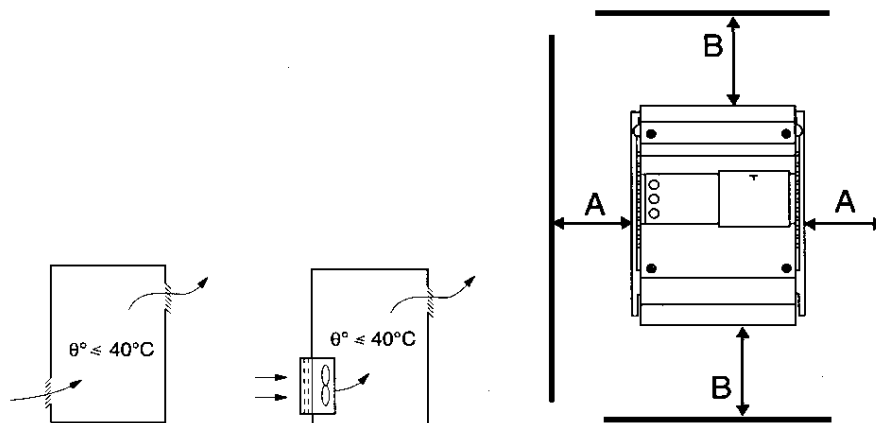

Figure 11 Ventilation and Clearances
- Leave sufficient space around starter (see Figure 11): A ≥ 2 in (50 mm), B ≥ 4 in (100 mm).